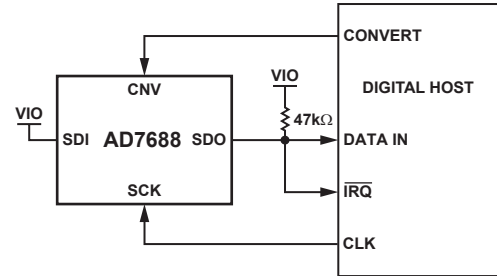
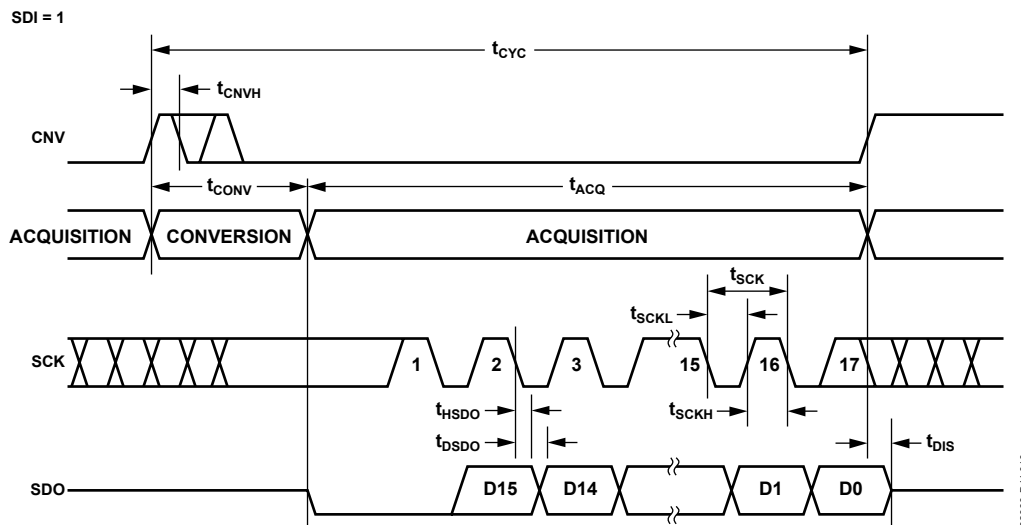
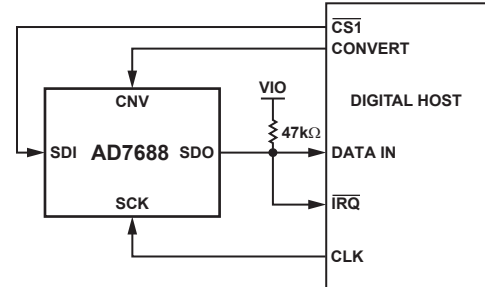
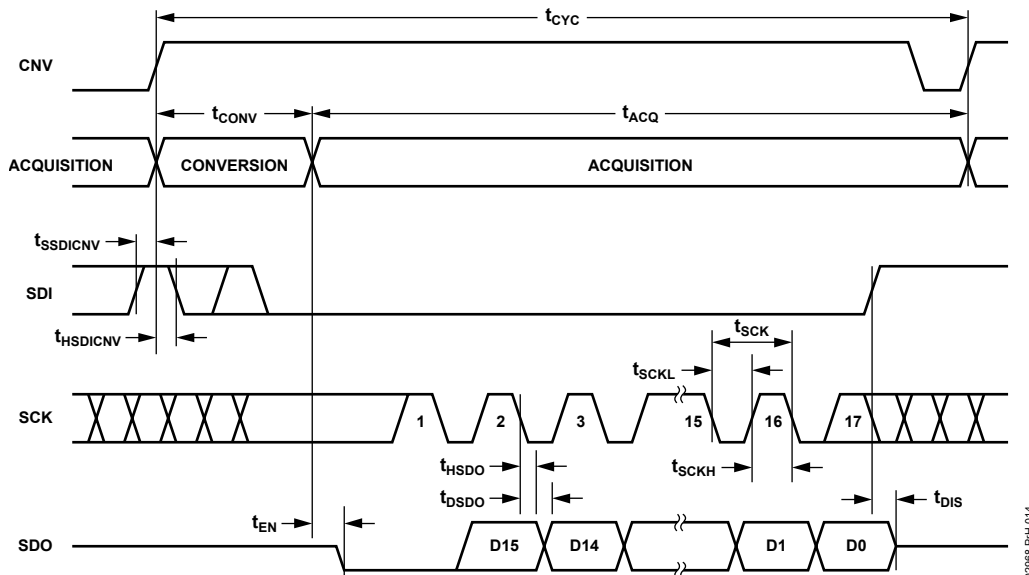

Figure 32. \overline{CS} Mode 3-Wire with BUSY Indicator Connection Diagram (SDI High)
Figure 33. \overline{CS} Mode 3-Wire with BUSY Indicator Serial Interface Timing (SDI High)
Figure 36. \overline{CS} Mode 4-Wire with BUSY Indicator Connection Diagram
Figure 37. \overline{CS} Mode 4-Wire with BUSY Indicator Serial Interface Timing
- In the $\overline{\text{CS}}$ mode, if CNV or SDI is low when the ADC conversion ends (Figure 33 and Figure 37).
The connection diagram is shown in Figure 32 and the corresponding timing is given in Figure 33.
The connection diagram is shown in Figure 36 and the corresponding timing is given in Figure 37.